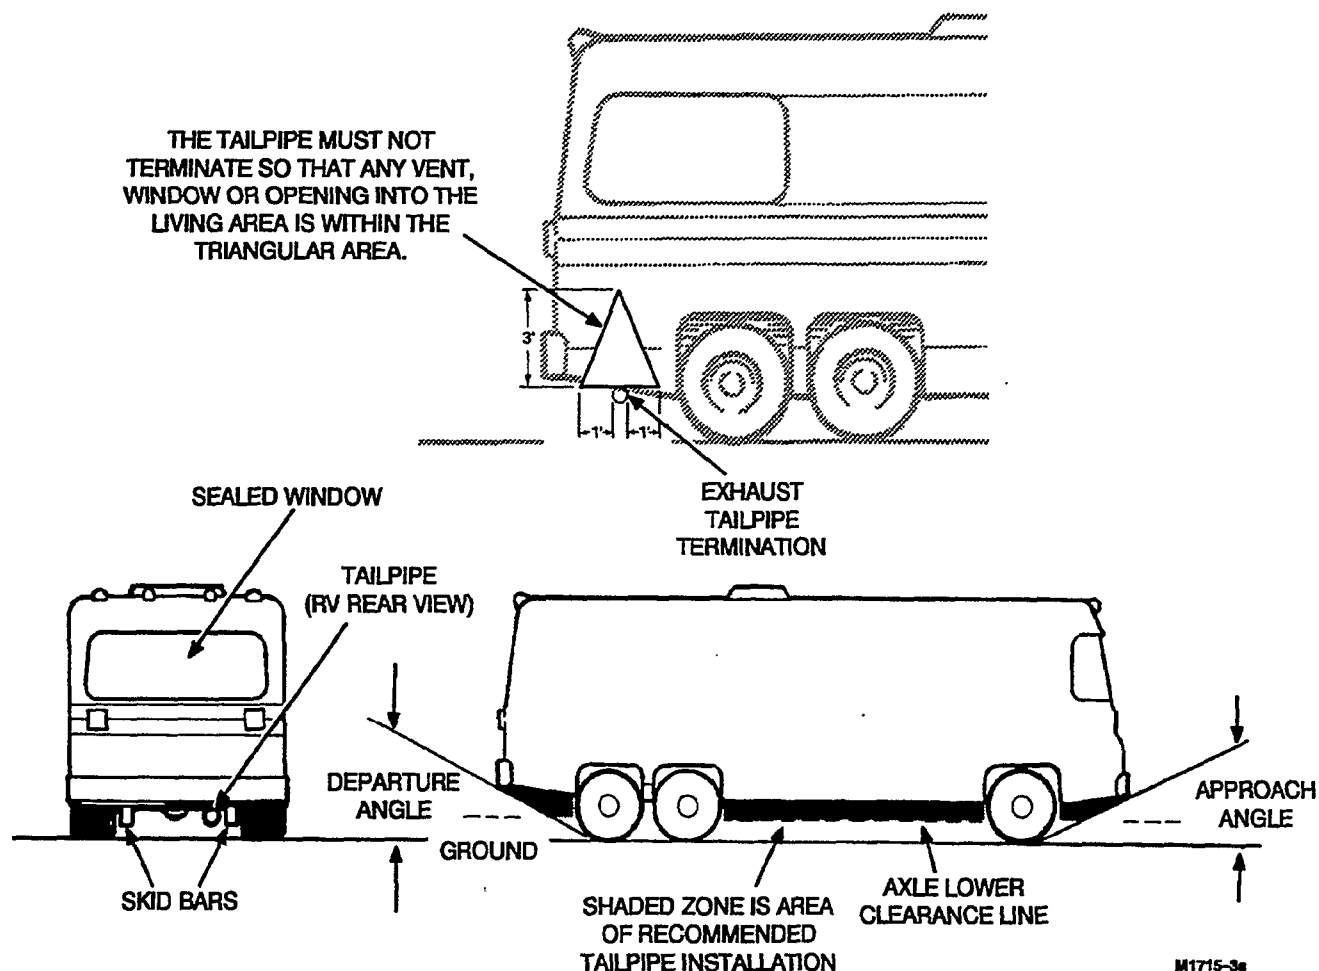

FIGURE 6-1. TAILPIPE INSTALLATION
The tailpipe must not terminate so that any vent, window, or opening into the living area is within the triangular area shown in Figure 6-1. This area is defined as an isosceles triangle with a height of 3 feet measured from the tailpipe termination and
**⚠ WARNING** *Exhaust gas presents the hazard of severe personal injury or death. Do not terminate an exhaust pipe under the vehicle. The tailpipe must not terminate so that any vent, window, or opening into the living area is within the triangular area shown in Figure 6-1. Keep all openings closed when the generator set is running.*
To reduce the chance of damaging the tailpipe and emitting exhaust gases under the vehicle, make certain that no part of the exhaust system intrudes into the departure angle or approach angle of the vehicle, unless it is protected by a skid bar or other protection device. The shaded areas in Figure 6-1 illustrate typical mounting locations.